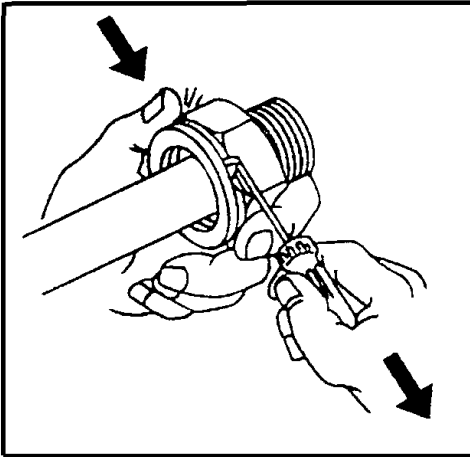

Figure 3 OE Quick connect fittings
7. Remove C-clips on transmission cooler lines and disconnect hoses. Automatic (A8) models only. See figure 3. Plug lines to limit fluid loss and leakage.
8. Remove (4) four 10mm transmission cooler screws and remove cooler. A8 models only.